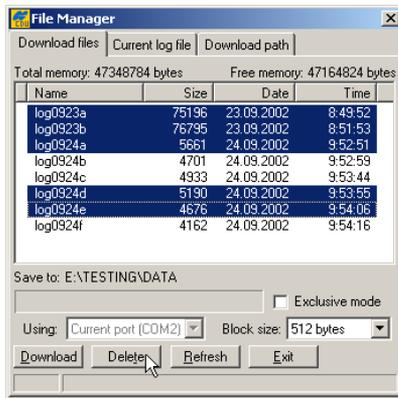

Figure 4-11. Delete Files
3. Click **File** ► **File Manager** and select the file(s) to delete on the Download files tab (Figure 4-11 on page 4-10).
4. Click **Delete** (Figure 4-11 on page 4-10).